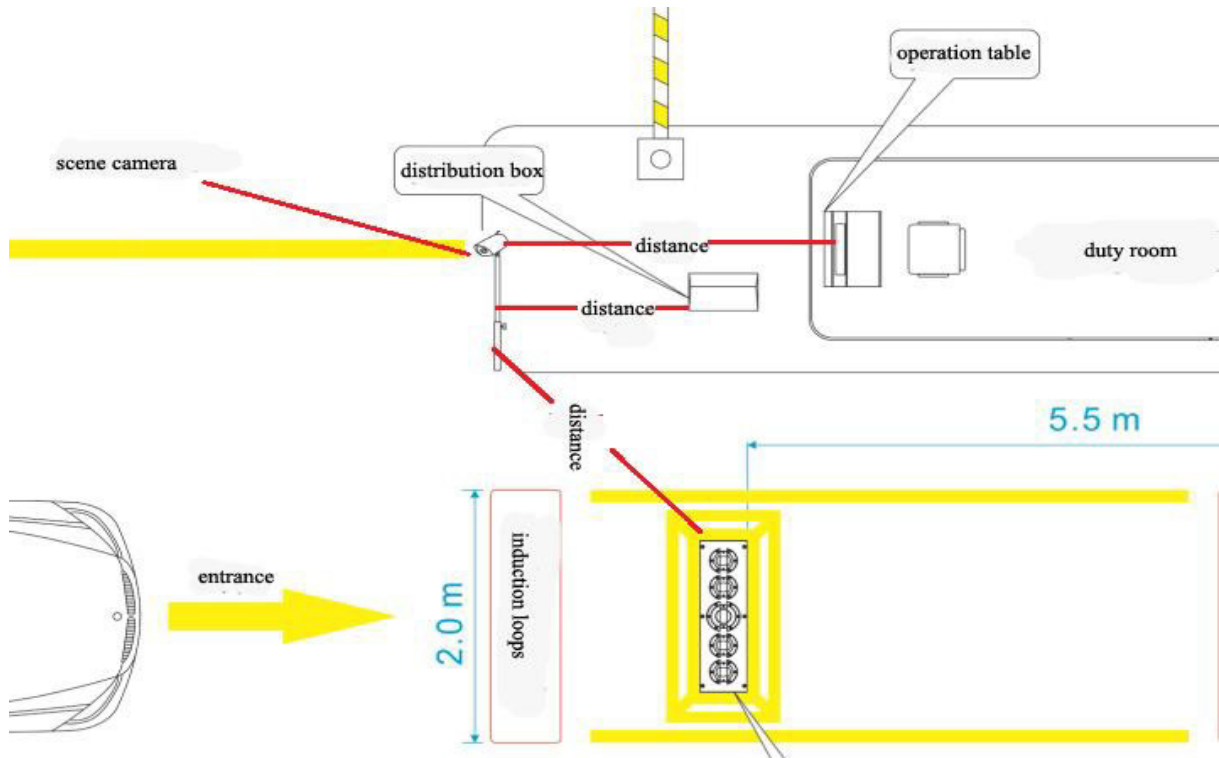

Figure 2-2
2. Whether clients need install scene monitor camera? If need, how many pcs scene monitor camera? How about the cameras location? How long the separately distance among scene monitor camera with the distribution box, operation table and scanning units? See Figure 2-2.